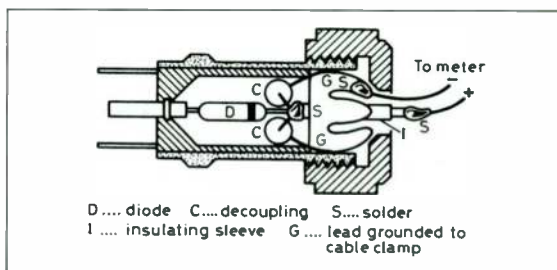

Fig 9.33. Construction of a simple coaxial detector for the wide-range wavemeter
29. Make a detector by taking the other plug and soldering a diode and decoupling capacitors, as shown in Fig 9.33, inside the plug.